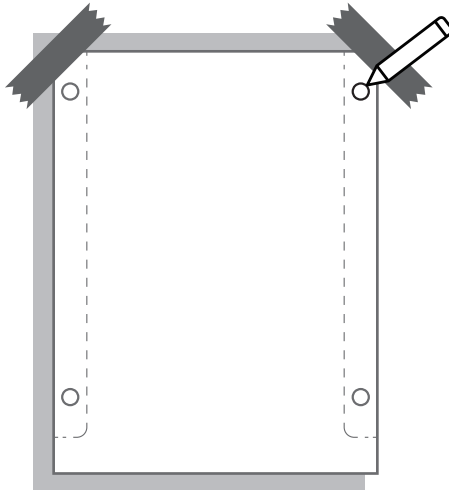

Fig. 5.4.3
2. Mark the mounting hole on the wall with the installation template. (See Fig. 5.4.3)